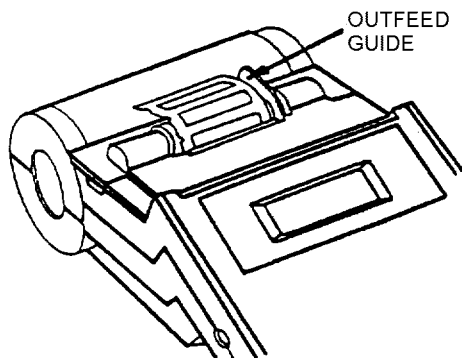

Figure 20. Outfeed Guide
l. Adjust blue outfeed guide to keep marker liner properly aligned as it advances out of printer. If necessary, readjust outfeed guide once the markers have advanced during a printing session (Figure 20).